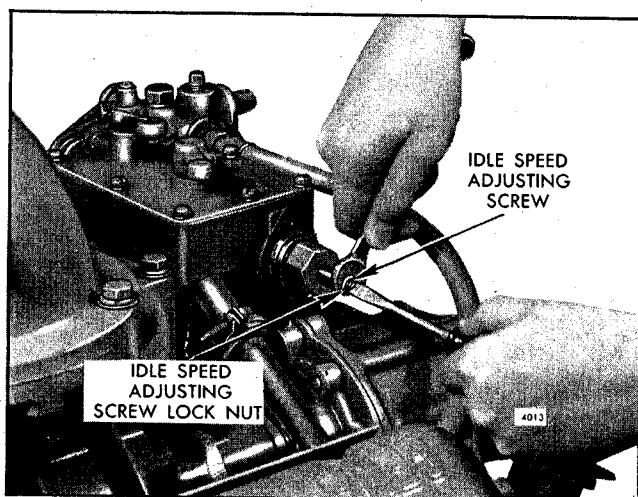

Fig. 15 - Adjusting Engine Idle Speed
3. Start the engine and loosen the idle speed adjusting screw lock nut. Then, adjust the idle screw (Fig. 15) to obtain the desired engine idle speed.
1. With the engine running at normal operating temperature and with the buffer screw backed out to avoid contact with the differential lever, turn the idle speed adjusting screw (Fig. 15) until the engine idles at the recommended idle speed. The recommended idle speed is 500-600 rpm, but may vary with the engine application.